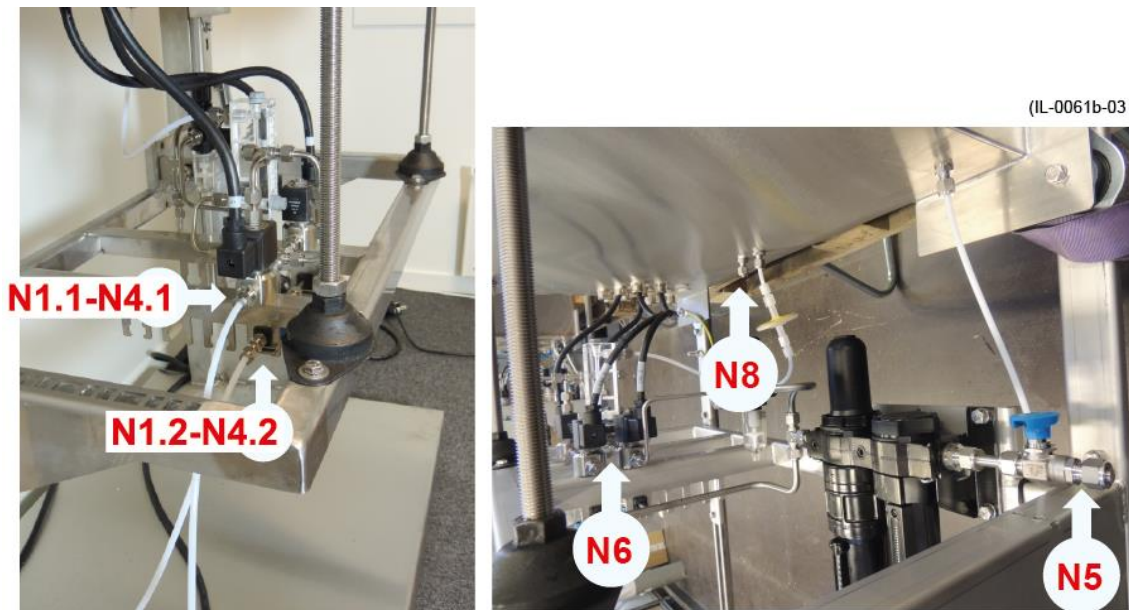

Figure 31 Analyser cabinet inlets/outlets
- 1) Connect the gas cylinder to N6. Refer to Figure 31 in chapter 7.4. Use the coil and regulator provided in the delivery.